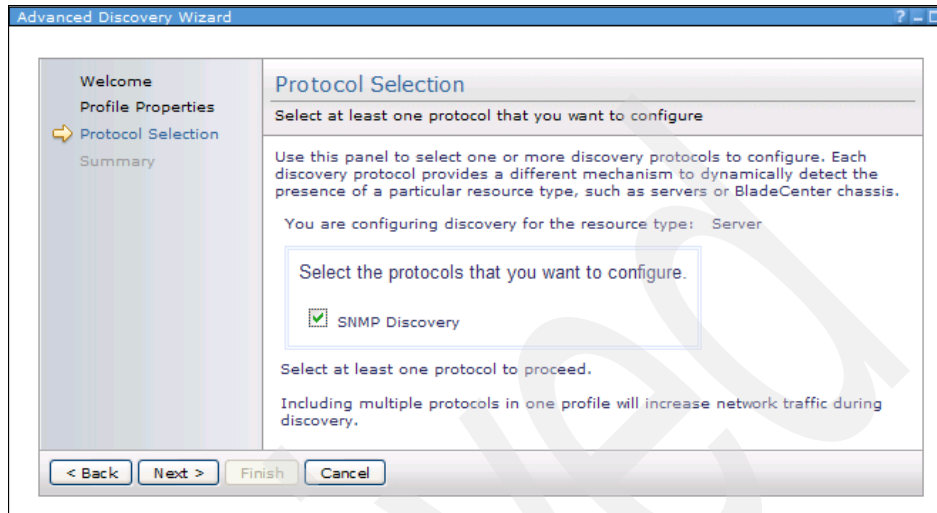

Figure 5-33 Advanced System Discovery Wizard: Protocol Selection
5. Select the protocol that this profile needs to use. For System z HMC, select **SNMP Discovery**, as shown in Figure 5-33. Click **Next**.